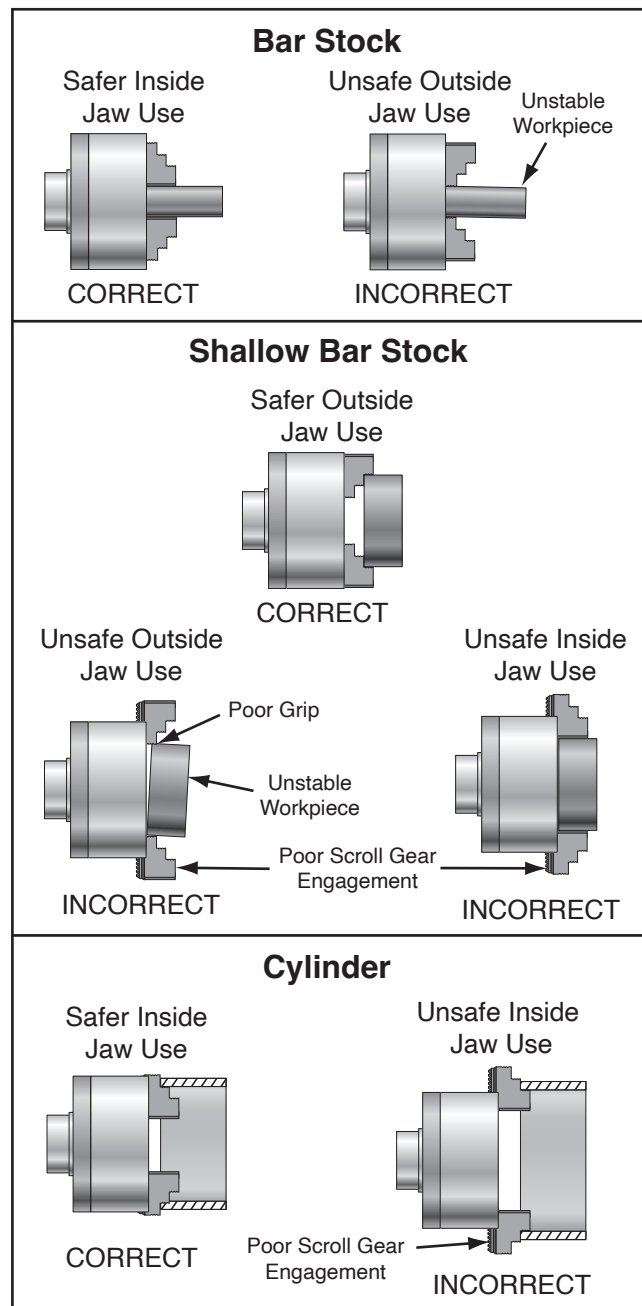

Figure 38. Safe and insufficient jaw selection and workpiece holding.
The 3-jaw, scroll-type chuck has an internal scroll-gear that moves all jaws in unison when adjusted with the chuck key. This chuck holds cylindrical parts on-center with the axis of spindle rotation and can be rotated at high speeds if the workpiece is properly clamped and balanced. See **Figure 38** for examples of safe workpiece holding techniques based on workpiece type.
3. Use chuck key to move jaws and mount workpiece into chuck (refer to **Figure 38** on **Page 35** for safe and insufficient mounting methods).